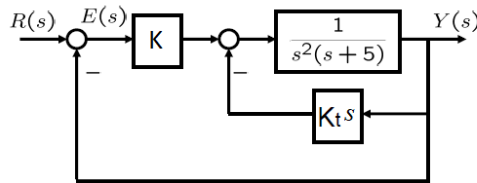

Figure 1: Control system for Problem 3.5
- (b) If an internal feedback of the output rate is included in the system, as shown in Fig. 1, should there be any relation between the control gain K and the rate feedback gain K_t to guarantee a stable response?
- (c) Calculate different ranges (or values) of K_t for which the root-locus graphs of the closed-loop system in Fig. 1 with respect to K are distinctively different.
- (e) Explain how you would end up with the same result as in the previous case just by using the root-locus graph (obtained in Matlab) of the closed-loop system in Fig. 1 with respect to K_t .